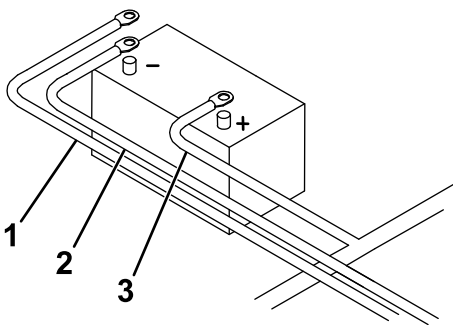

Figure 16
13. Connect the black power/ground cable to the negative (-) battery terminal (Figure 16).
14. Connect the brown wire with the large ring connector from the wire harness to the negative (-) battery terminal (Figure 16).
15. Connect the free end of the battery cable to the positive (+) battery terminal (Figure 16).